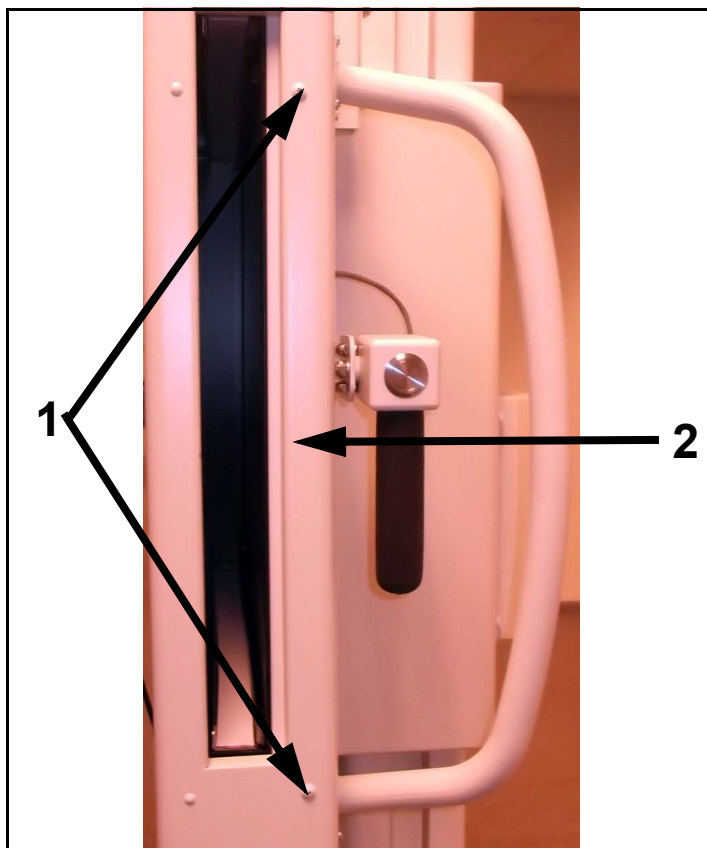

Figure 5-6. Right Side Panel & Front Panel
- 5 Unscrew the two right side cover screws (1 in Figure 5-6) and remove the side cover (2).